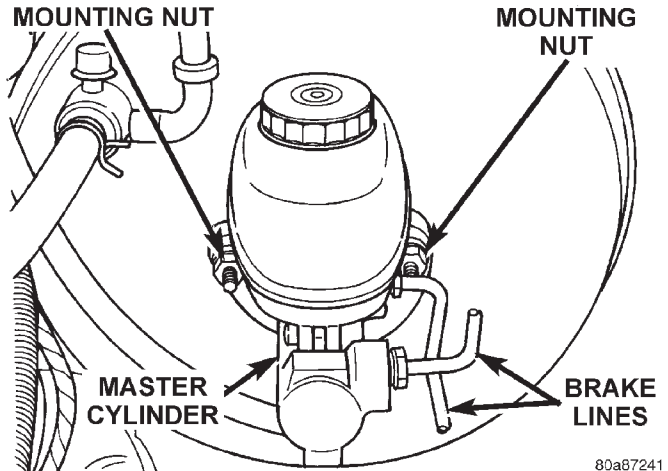

Fig. 16 Master Cylinder
- (1) Remove brake lines from the master cylinder (Fig. 16).
- (2) Remove mounting nut from the master cylinder (Fig. 16).
- (3) Remove master cylinder.